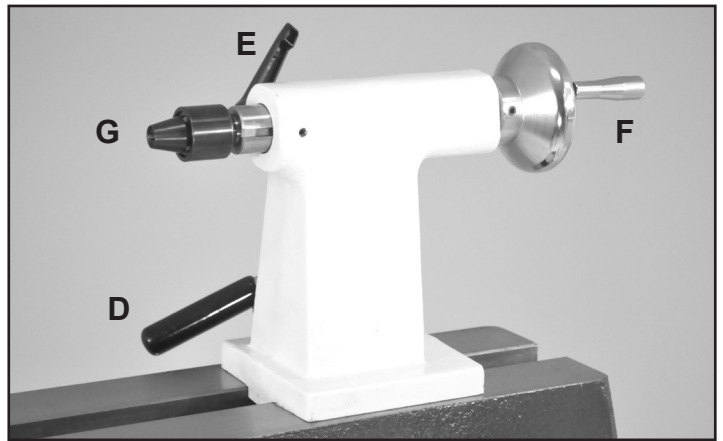

FIG. 5
1. **TAILSTOCK LOCK HANDLE:** (FIG. 5, D) Locks the tailstock in position along the length of the lathe bed. Unlock handle to position the tool rest to move the tailstock. Tighten handle when properly positioned.
2. **TAILSTOCK QUILL LOCK HANDLE:** (E) Secures the tailstock quill in position. Unlock the handle to move the quill, with live center, forward or backwards. Tighten the locking handle when the quill is finally positioned.
3. **TAILSTOCK QUILL HANDWHEEL:** (F) The handwheel advances or retracts the quill 0 to 3-1/2". The tailstock quill lock handle (E) must be loose to move the quill.
4. **TAILSTOCK LIVE CENTER:** (G) Used for turning between centers. The Live Center (#84) and the Quill (#83) have MT-2 tapers. Remove the live center by retracting the quill until the center loosens, or use the knockout bar.